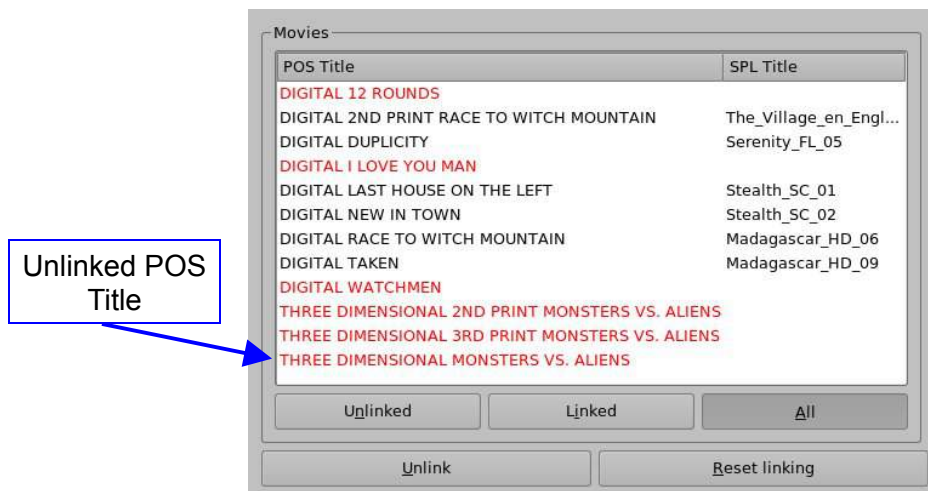

Figure 41: Edit Links Window – Linked View
- The Movies window will reflect the whole movie list, indicating the movie titles that are unlinked in red, as presented below (Figure 41):